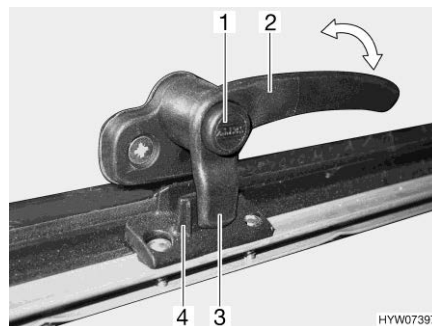
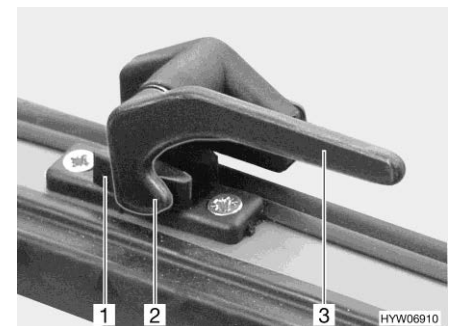

Fig. 118 Catch lever with safety knob in "closed" position
Fig. 119 Catch lever in "closed" position
- Opening:** ■ Press and hold the safety knob (Fig. 118,1), if present.
- Turn all catch levers (Fig. 118,2 or Fig. 119,3) a quarter turn towards the centre of the skylight.
- Press and hold the safety knob (Fig. 118,1), if present.
- Turn all catch levers (Fig. 118,2 or Fig. 119,3) a quarter turn towards the frame. The locking catch (Fig. 118, 3 or Fig. 119,2) is located on the inside of the skylight lock (Fig. 118,4 or Fig. 119,1).
- "Firmly closed" (Fig. 118 and Fig. 119)